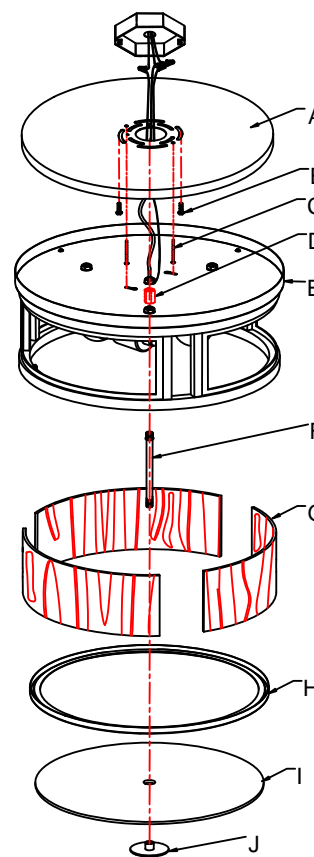

Fig.3
6. Finish mounting the ceiling pan assembly by placing it over the two mounting screws (C) so they protrude through the "keyholes" in the bottom of the pan. Rotate the pan until the screws are in the slots of the "keyholes" and tighten with a screwdriver.
8. Install the glass panel (G) into fixture body and secure with tabs provided.
9. Thread the tube (F) to coupling (D).
10. Place metal ring (H), glass shield (I) over the tube (F) and tighten with finial (J). Please See Fig.3 for the schematic diagram of metal ring (H) and glass shield (I)'s installation.